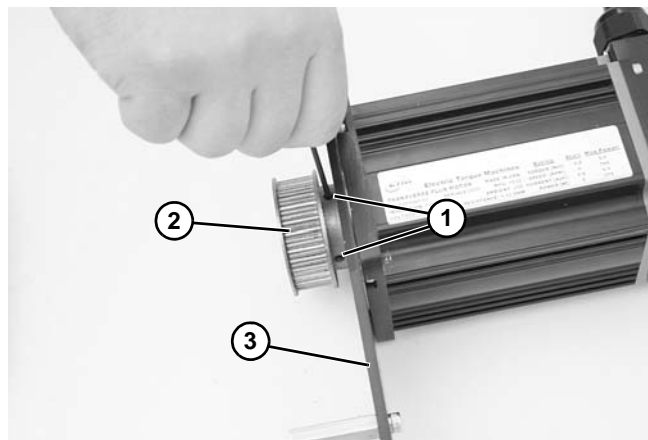

Figure 29
2. Loosen set screws (**Figure 29, item 1**) and remove drive pulley (**Figure 29, item 2**).
3. Remove rear plate (**Figure 29, item 3**).